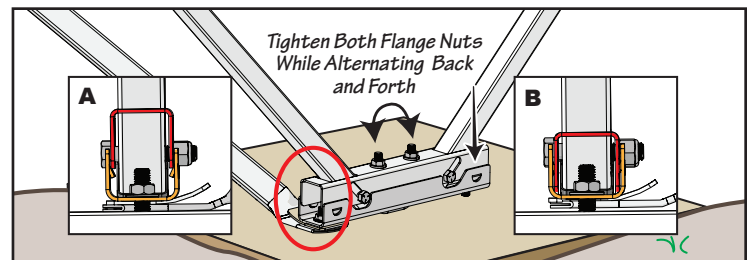

Fig. 4-5
- As the flange nuts tighten, the upper tension bracket will compress downward into the lower tension bracket as shown in Fig 4-5 "A".
- Continue tightening while alternating the flange nuts until the upper bracket fully compresses into the lower tension bracket as shown in Fig. 4-5 "B"